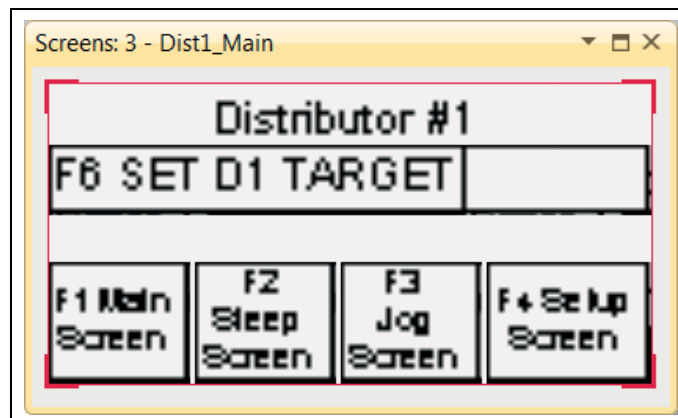

Figure 5L
12. Press the **F3** Yes key, the homing operation will be performed and the screen will appear again as in Figure 5L.
13. After the homing operation, press the **F1 Main Screen** as in Figure 5L on Page 23 to return to the Main Screen: The screen will appear as in Figure 5M.